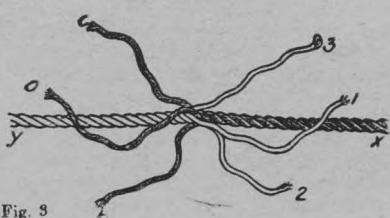
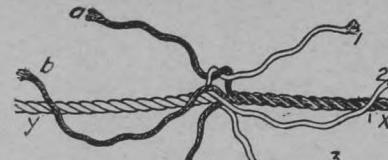
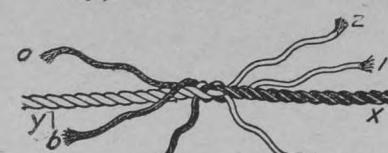

Fig. 3
Fig. 4
Fig. 5
needles through the holes from opposite sides and drawing each stitch very tightly. When the last stitch through both straps is made cross over as shown, whichever method is preferred, then reverse the splice in the clamp, with the smooth side still to the right, and stitch the other edge of the splice. To finish the stitching, place the left needle and thread through as usual; then place the right needle in the hole and wind the left thread twice around the right needle and draw both ends tight. The winding will lock the threads in the leather. Make another small hole one-eighth inch below the next to the last one on the splice and put in another locking twist. Then cut off both threads. The finish is shown in fig. 5.
If there is a straight pull and the rope doesn't have to pass through a pulley, a short splice will do. The steps in making this splice are shown in (figs. 3, 4, 5 and 6). The two ends are unwound and then locked together so that those from one end pass alternately between those from the other end. Taking two strands from opposite sides, (a) and (1), (fig. 3) tie a simple knot (fig. 4). Repeat with (b) and (2) and with (c) and (3). Draw the knots tightly, then passing each strand of the rope diagonally to the left, tuck the ends under the strands of rope (y). Then turn the rope end for end and repeat by splicing down the strands of rope (y) (fig. 5). When the splice is completed each strand from both ropes should be spliced under at least two places, depending on the size of the rope and the strain it has to carry. The splice can be made, of course, without